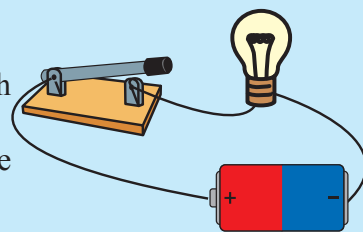

Figure 10.7 ▲
- First, connect one dry cell with a bulb and a switch as shown in Figure 10.7.
- Close the switches of the circuits as shown in Figure 10.7, 10.8 and 10.9 .